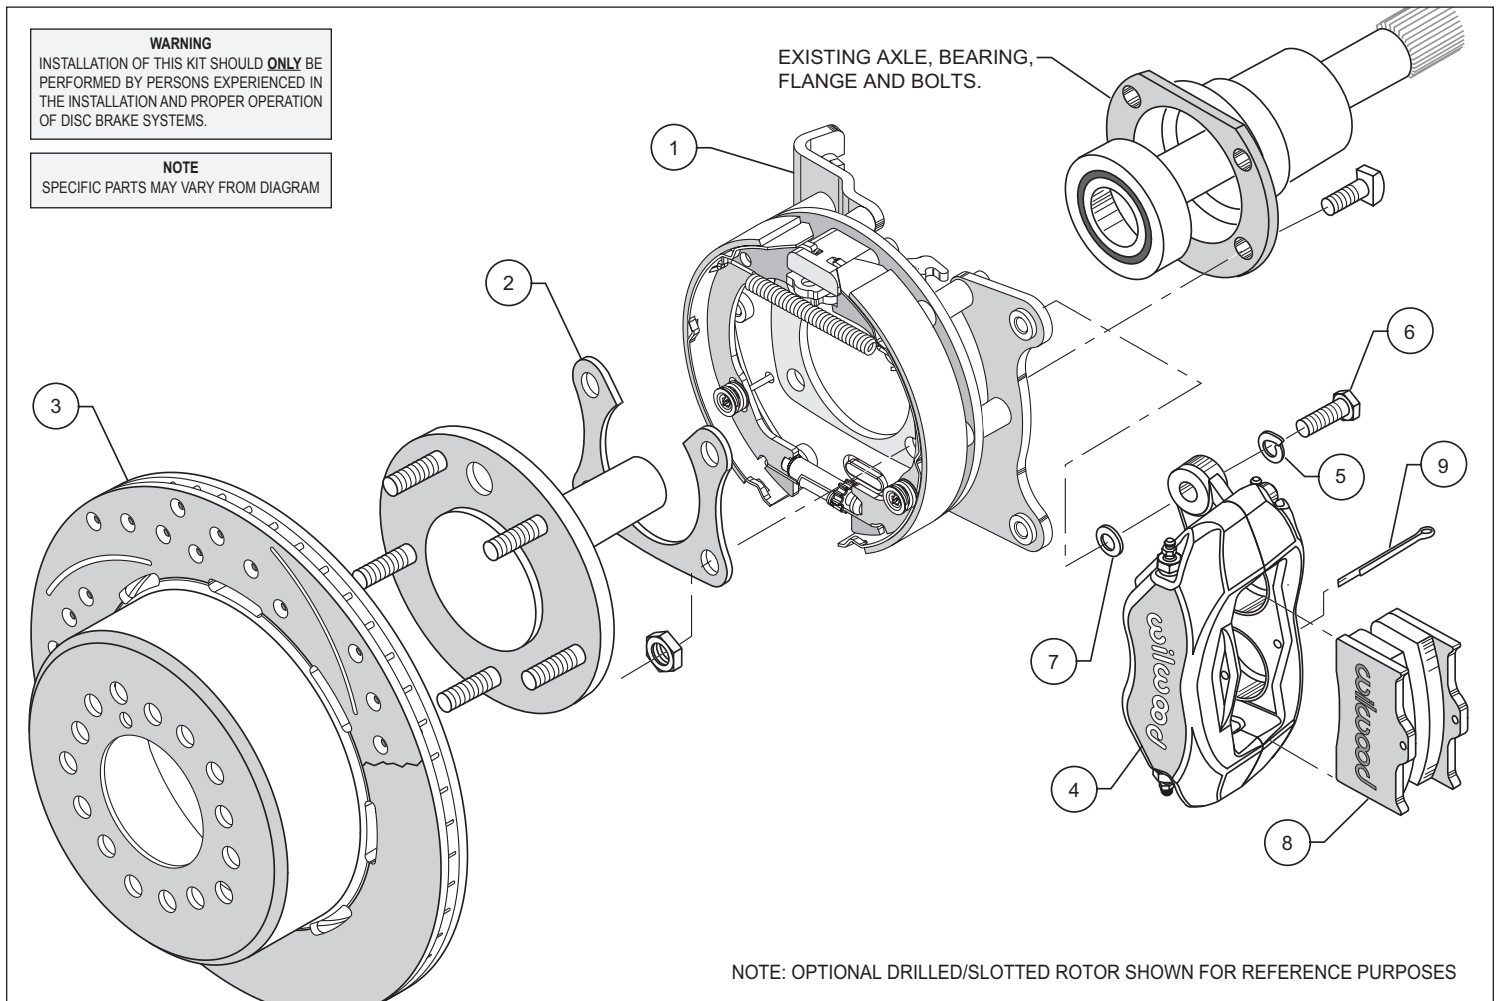

Figure 1. Typical Installation Configuration
A. **Full Circle Retainers** require the utilization of a qualified machine shop to press off the axle bearing and OEM retainer. Then have machine shop install new retainer (2), supplied with bracket kit with lip facing toward bearing, reference Figures 1, 4 and 5 (we suggest that you install a new bearing at this time, not supplied with kit).
B. **"U" Retainers** require the removal of the OEM retainer by cutting or grinding a notch in the retainer to facilitate removal. Once OEM retainer is removed, install new retainer (2) supplied with bracket kit with the "U" opening facing up and the lip facing toward bearing, reference Figures 1, 4 and 5.